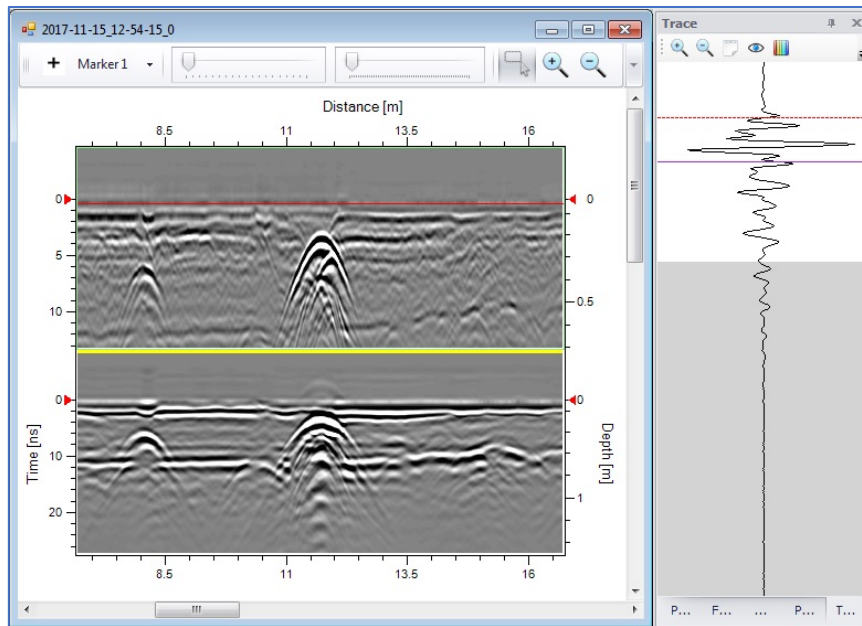

Figure 15 Time-zero setting and adjustment
One of the most important things to do when working with a new profile, is to set the 'time-zero' position. This is most important if you want to accurately measure depth, or layer thickness, to reflectors within the radar data. Adjustment is made by clicking and dragging one of the red arrows positioned at the zero (0) points either side of the vertical scale. With the trace view window active, you will see a corresponding red dotted cursor that will move simultaneously to aid in the positioning and adjustment, as shown in **Figure 15** below.